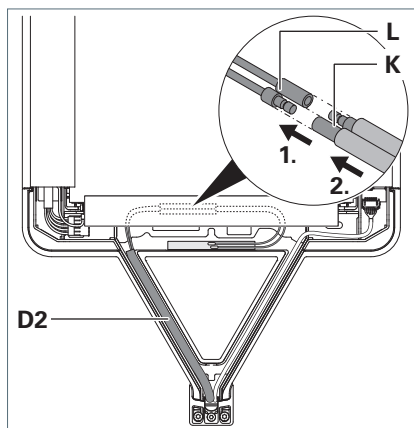

Fig. 6: Connecting the aerial.
- Lay the supply cable **D2** from the column into the supporting arm of the luminaire head, see Fig. 6.